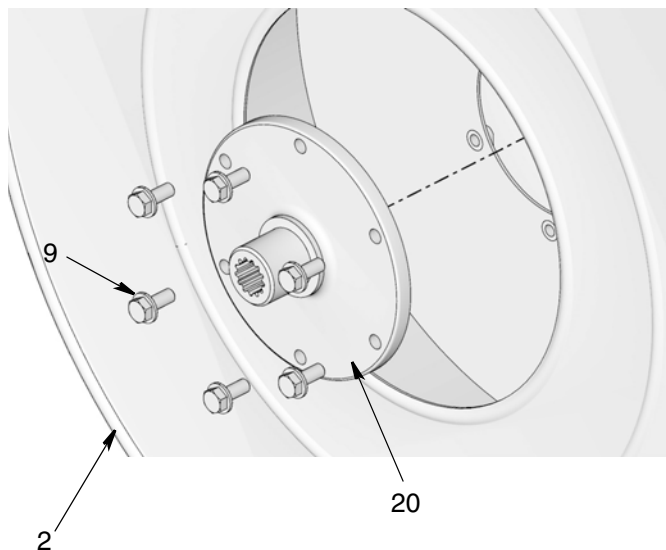

FIG. 31
- b. Remove bolts (9) while holding shaft (20) to spool (2) (FIG. 31).